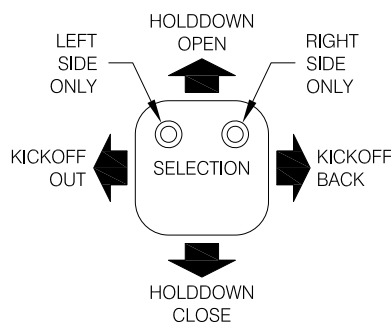
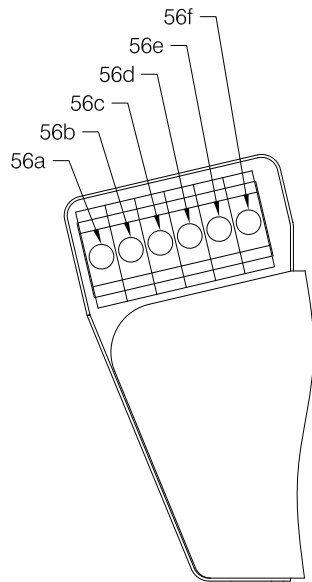

Fig. 3-7 Holddown and Kickoff Controls
Fig. 3-8 Holddown and Kickoff Controls
NOTE: Your Lumberjack will either be equipped with a single lever control mounted on the left armrest for holddown and kickoff control, as shown on item 55 and Fig 3-7 (Option A), or a multiple lever control on the left armrest, as shown on items 56a through 56f and Fig 3-8 (Option B).